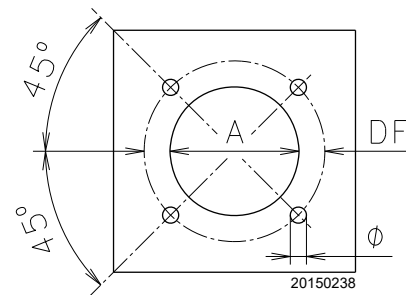

Fig. 15
Drill the combustion chamber locking plate as shown in Fig. 15. The position of the threaded holes can be marked using the thermal screen supplied with the burner.
- Fit the entire burner onto the boiler hole prepared previously (Fig. 15), and fasten with the screws supplied.